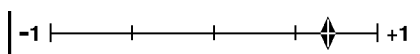

Figure 2–23: The phase correlation meter
The Correlation meter, illustrated in Figure 2–23, displays a true mathematical phase correlation (mono compatibility) between the two channels of the phase pair, independent of signal amplitude. You may find it easier to interpret the correlation meter than the Lissajous pattern. The position of the diamond-shaped pointer indicates the correlation between the two selected channels. The meter will read +1 when the channels contain identical signals (frequency and phase); it will measure –1 when the signals have the same frequency (or frequencies), but are 180 degrees out of phase. A center-scale (0) reading indicates uncorrelated — or random — signals.